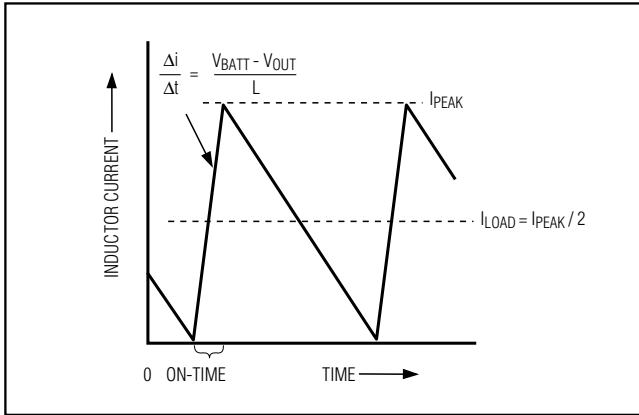

Figure 4. Pulse-Skipping/Discontinuous Crossover Point
where K is the on-time scale factor (Table 4). The load-current level at which PFM/PWM crossover occurs, $I_{LOAD(SKIP)}$, is equal to 1/2 the peak-to-peak ripple current, which is a function of the inductor value (Figure 4).
- 1) Determine the minimum (valley) inductor current ($I_{L(MIN)}$) under conditions when V_{IN} is small, V_{OUT} is large, and load current is maximum. The minimum inductor current is I_{LOAD} minus half the ripple current (Figure 4).